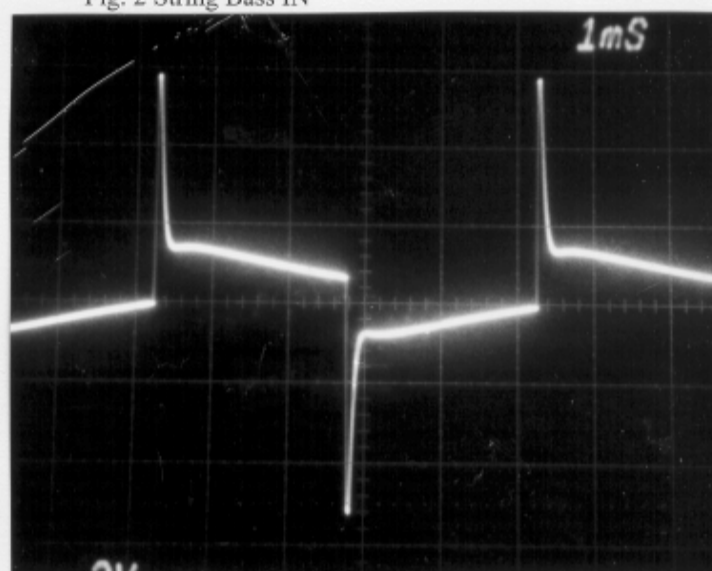

Fig. 4 Presence on 10
6. Turn the PRESENCE to 10 and compare the output to Figure 4. Turn the PRESENCE back to zero